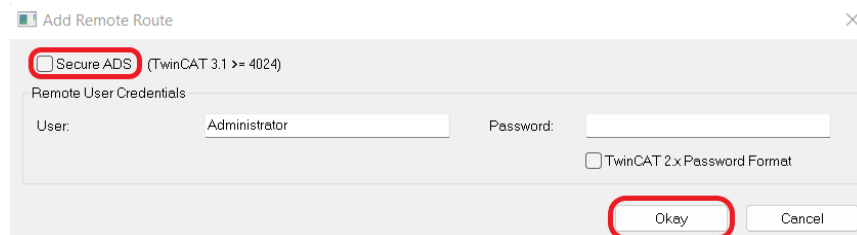

Figure 32: Static Routes – 'Add Remote Route' window, 'Secure ADS' & 'Remote User Credentials'
8. Clicking the 'Add Route' button opens the 'Add Remote Route' window seen below. Please ensure that the 'Secure ADS' checkbox – highlighted in Figure 32 below – in the upper left corner is empty (unchecked), and that the 'User' field is set to 'Administrator' and the 'Password' field is left blank. Press 'Okay' – also highlighted in Figure 32 – to finish adding the route.